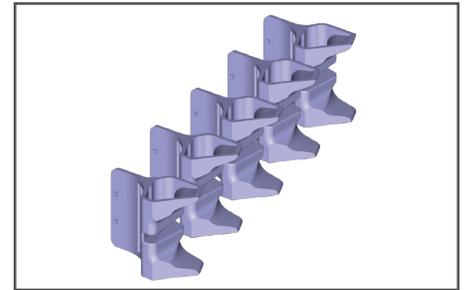

Figure 79: Combine multiple parts, in any combination, for building.
- Production mix is unlimited (Figure 79).